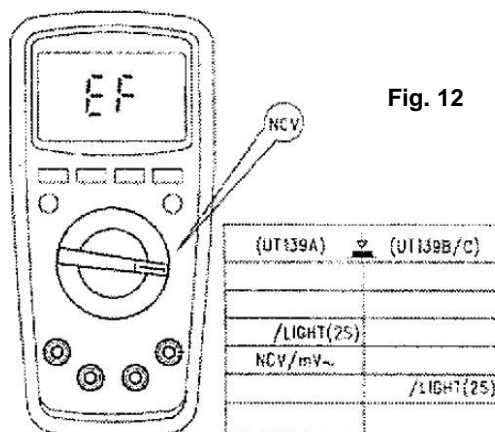

Fig. 12
**9. DETECTARE FARA CONTACT A TENSIUNII AC (fig.12)**